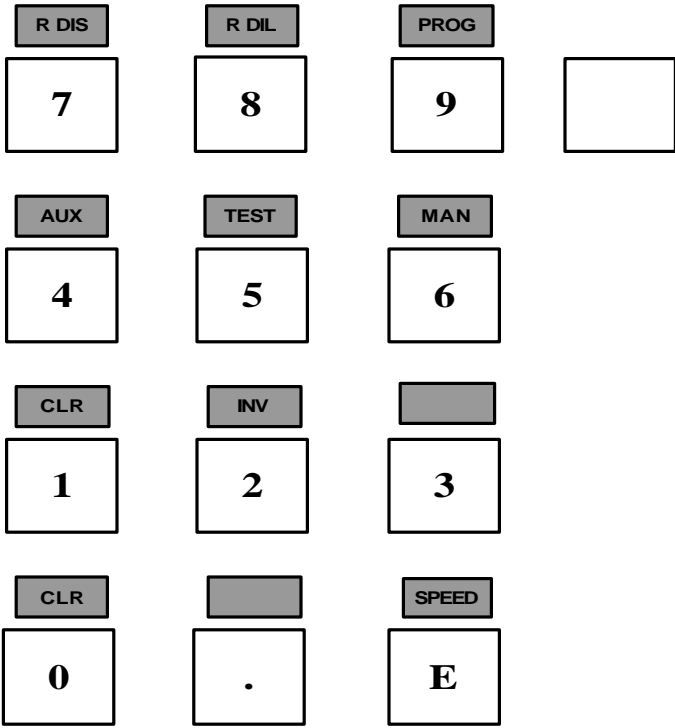

Figure 1. The Hamilton Microlab® Pipetter Keyboard
2. Program the auto pipetter to hold a total volume of **5000 : L** and dispense **500 : L** in **10** steps by entering the following program (see Figure 1):